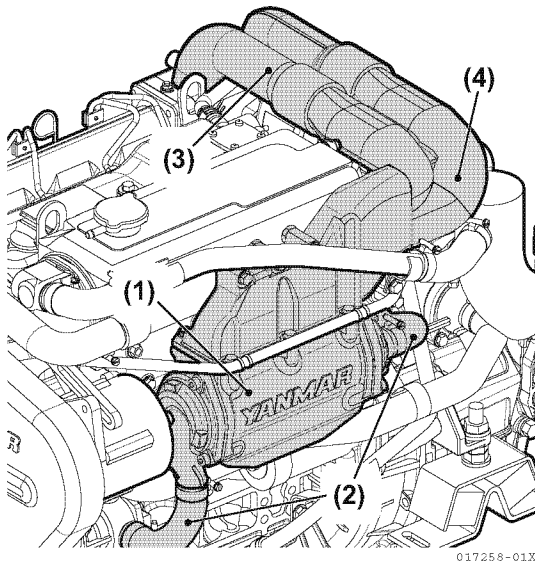

Figure 5-191
- (c) Install the air duct from the turbocharger to the intercooler (**Figure 5-191**).